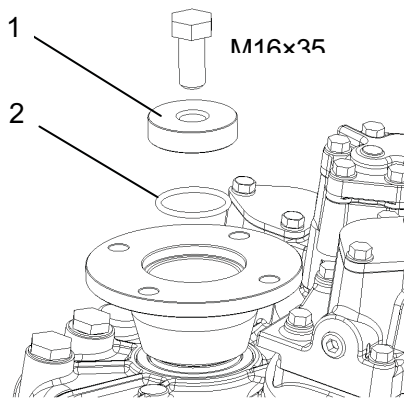

Fig.3-2
Remove spacer(Fig.3-2, item1) and O-ring (Fig.3-2 item2)